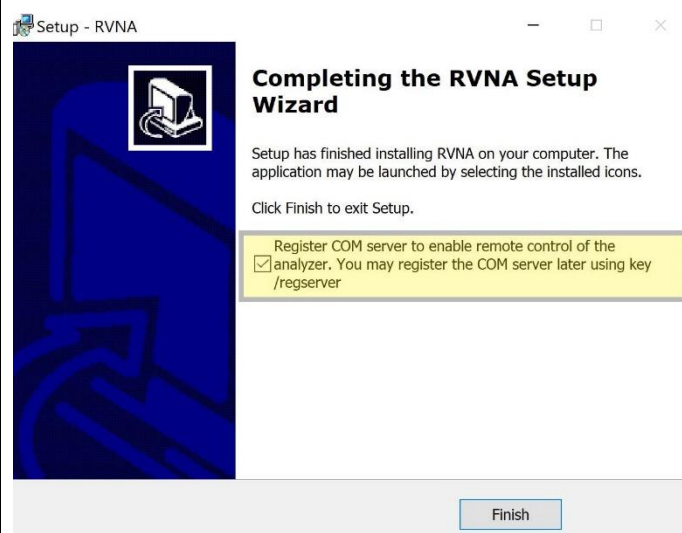

Figure 2. Registration of RVNA
12. Following setup file extraction, a new window will appear with a checkmark option asking to register the COM server to enable remote control of the R60 analyzer. **\*\*IT IS VITAL THAT THIS FEATURE BE ENABLED\*\*** Unchecking this box will require a full reinstallation of RVNA software for successful operation of included measurement software (*Figure 2*).